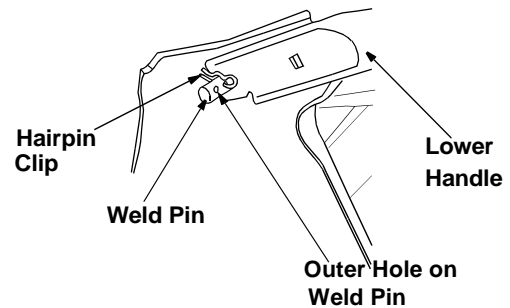

Figure 3
- Remove the hairpin clip from the outer hole of the weld pin. See Figure 3.
- Using a pair of pliers, insert the hairpin clip into the inner hole in the weld pin. See Figure 3. Repeat on other side.